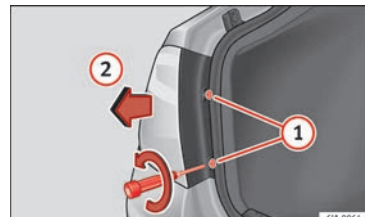

Fig. 153 Remove the rear light unit from side panel.
- Take the screwdriver or a Torx 20 key (T20) from the vehicle tool kit and loosen (turning anti-clockwise) and remove the two retaining screws that secure the front of the light » **Fig. 153 ①**, taking care not to lose them.
- Pull the rear light unit backward (» **Fig. 153 ②**) to remove the light from its housing.